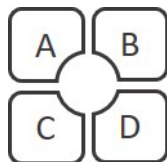

Figure 7. Location and numbering of injection ports on Agilent Seahorse XF sensor cartridges.
- 4 Load 25  $\mu\text{L}$  of compound to each injection port, according to **Table 10**. For the location of the ports, refer to **Figure 7**.